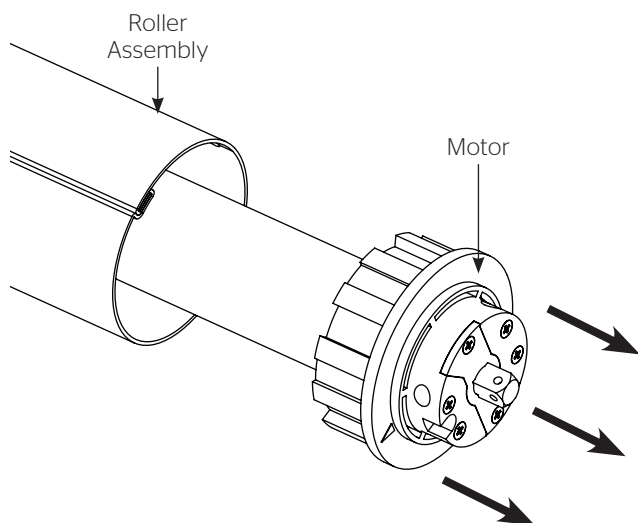

Figure 10
2. Remove motor from the old screen and roller assembly and set aside (Figure 10).